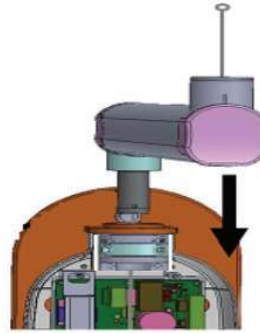

Figure 24
- Tighten the 2 no's of M4 x 16 HSHC Screws at the location shown in Figure 24 by using 3mm Allen key ensuring the smooth movement of straight arm.